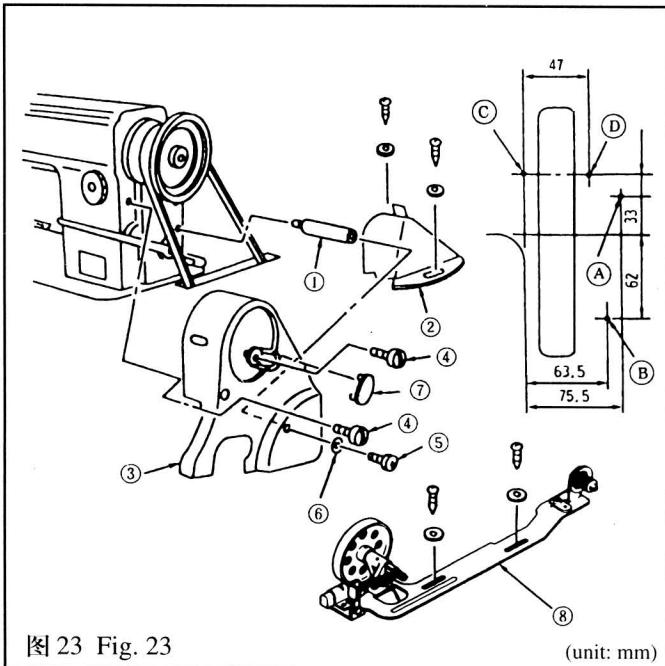
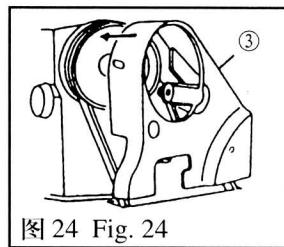
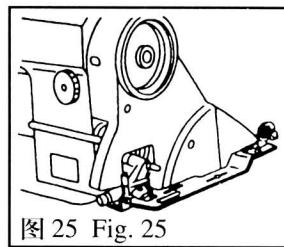

图 23 Fig. 23
图 24 Fig. 24
图 25 Fig. 25
- 1) When sewing heavy-weight materials, move thread guide ① to the left in direction A to increase the length of thread pulled out by the thread take-up.
- 2) When sewing light-weight materials, move thread guide ① to the right in direction B to decrease the length of thread pulled out by the thread take-up.
- 3) When the center of the thread guide ① is aligned with the center of the screw, it is standard.
17. 皮带罩绕线器的装法(图 23、图 24、图 25)
17. INSTALLING THE BELT COVER AND THE BOBBIN WINOER (Fig.23, Fig.24, Fig.25)